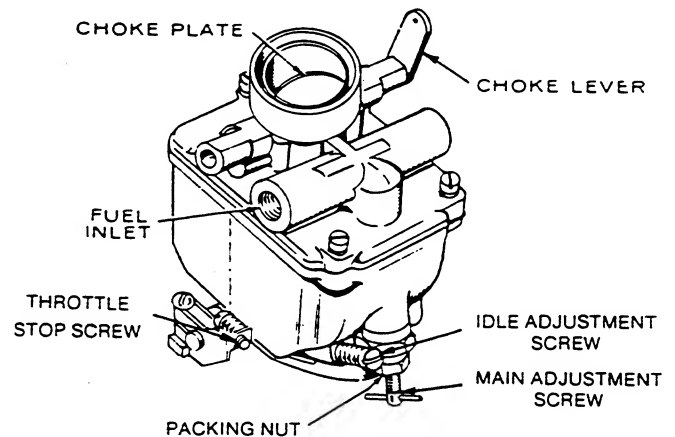

FIGURE 12. CARBURETOR ADJUSTMENTS
2. Loosen packing nut as shown in Figure 12. Turn the main adjustment screw in (clockwise) until engine speed drops and then out (counterclockwise) until engine speed returns to normal.